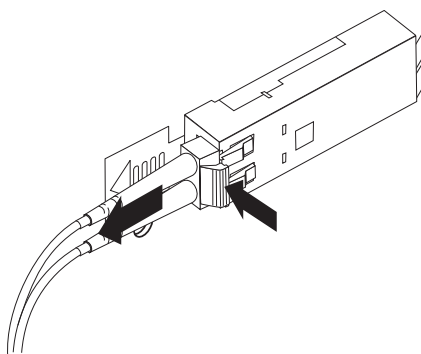

Figure 24. Removing the LC-LC fibre-channel cable
2. Carefully pull on the connector to remove the cable from the SFP module, as shown in Figure 24 on page 38.